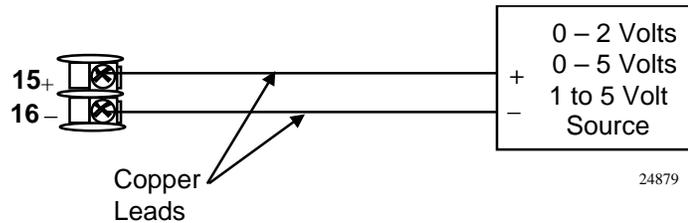

Figure 8-8 Wiring Connections for 1 to 5 Volt Input – Input 2
- Use the copper leads and connect the calibrator to the rear terminals of Input #2 (see Figure 8-8).